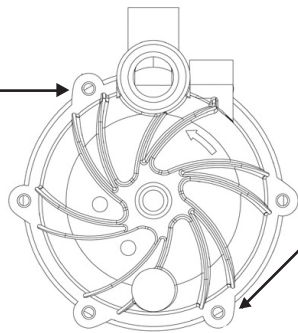
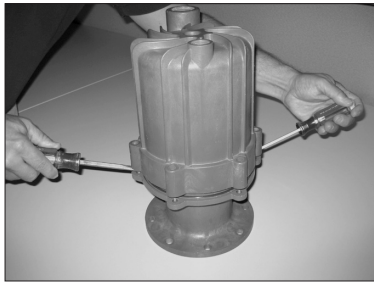

Figure 12
Figure 12A
5. Remove the housing by carefully inserting two flat head screwdrivers at the locations shown in figure 12. Slide the screwdrivers in at the bolt holes between the metal clamp ring (item 13) and the housing until they stop. Applying equal pressure, gently pry both screwdrivers in an upward motion away from the work bench (to avoid damaging sealing surface on the housing). See figure 12A. Housing is tight due to o-ring seal on the internal "gooseneck." **NOTE:** Do not twist the screwdrivers or damage may occur to the housing. Lift the housing straight up to remove.